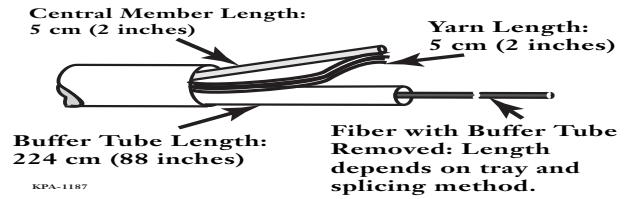

Figure 4
5.4 Remove cable sheath to the length illustrated in Figure 4. When installing BTF kits, leave 57 in. of fiber with the buffer tube removed.